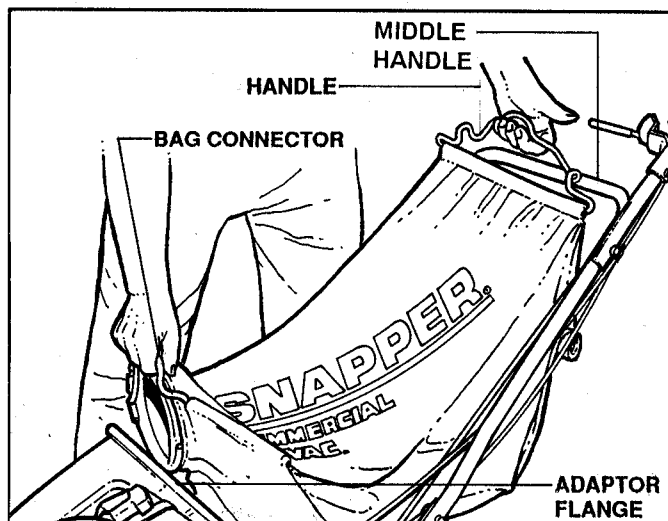

FIGURE 2.7
- B. Lift rear of bag up and over the middle handle See Figure 2.7.